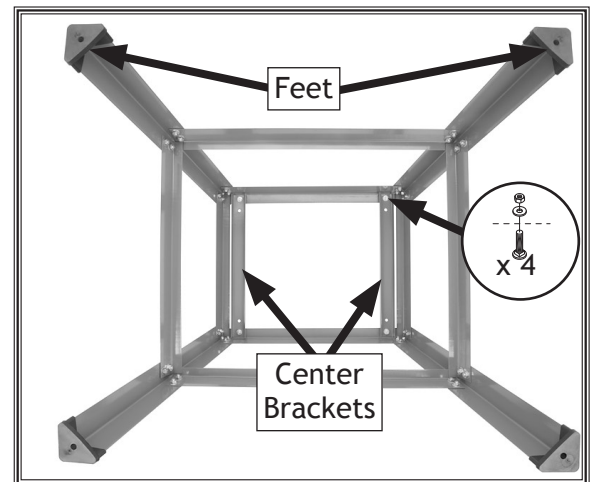

Figure 5. Completed stand assembly.
4. Fasten the other leg assembly to the stand assembly (see **Figure 5**) with eight M8-1.25 x 12 carriage bolts, flat washers, and hex nuts.
5. Secure the two center brackets (see **Figure 5**) with four M8-1.25 x 12 carriage bolts, flat washers, and hex nuts.